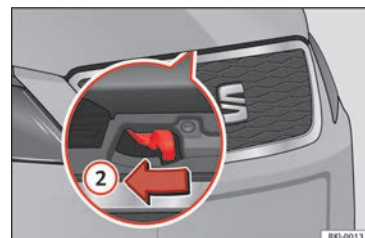

Fig. 10 Lever under the bonnet.
- To lift the bonnet, press towards the left on the lever located under the bonnet, in the centre »» Fig. 10 ②. The arrester hooks are released.